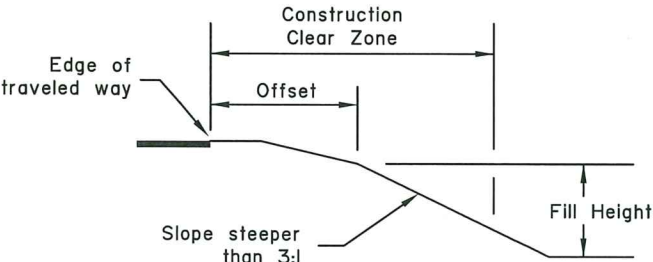

FIGURE 5
- 1. Use this table for fill slopes steeper than 3:1 or water hazards that start within the Construction Clear Zone (CCZ). See Figures 5, 6, and 7.